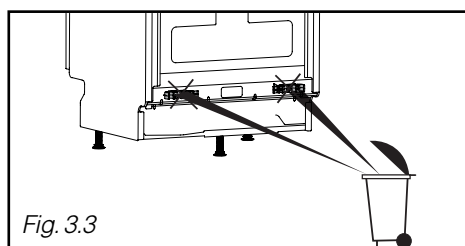

Fig. 3.3
- Retirez les supports tuyaux (Fig. 3.3)